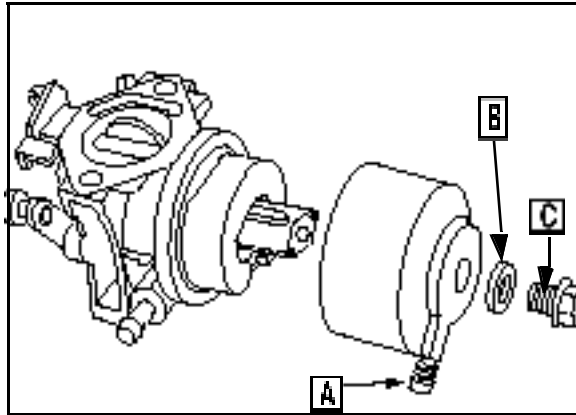

Fig. 95
1. Remove fuel bowl mounting screw (C) and washer (B). Remove the fuel bowl (A) Fig. 95).